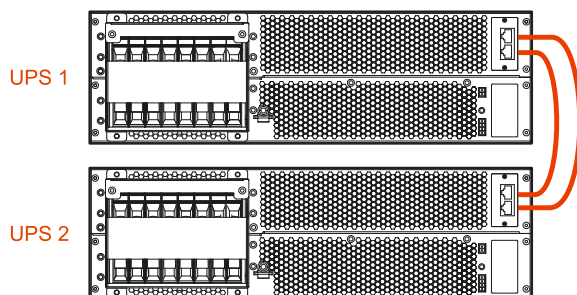

Figure3-33 Wiring diagram of parallel wire
Step 3 Connect the parallel port of each unit in parallel by parallel wires, as shown in Figure3-33.